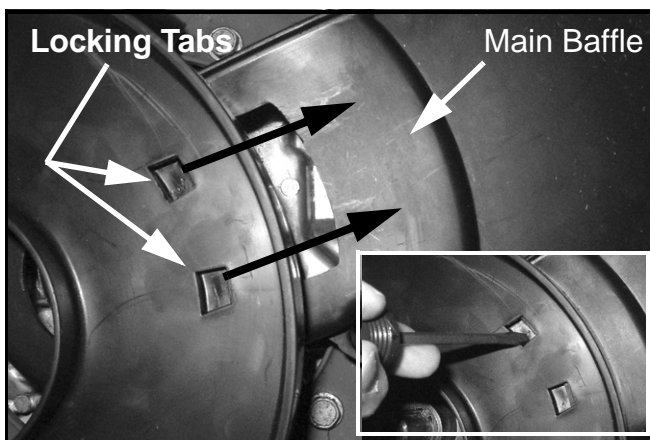

FIGURE 4
15. Refer to Figure 4. Slide the 731-05903 baffle towards the rear of the mower with the locking tabs aligning with the large opening of the main baffle. Depress the locking tabs just enough to allow them to slide to the inside of the main baffle.